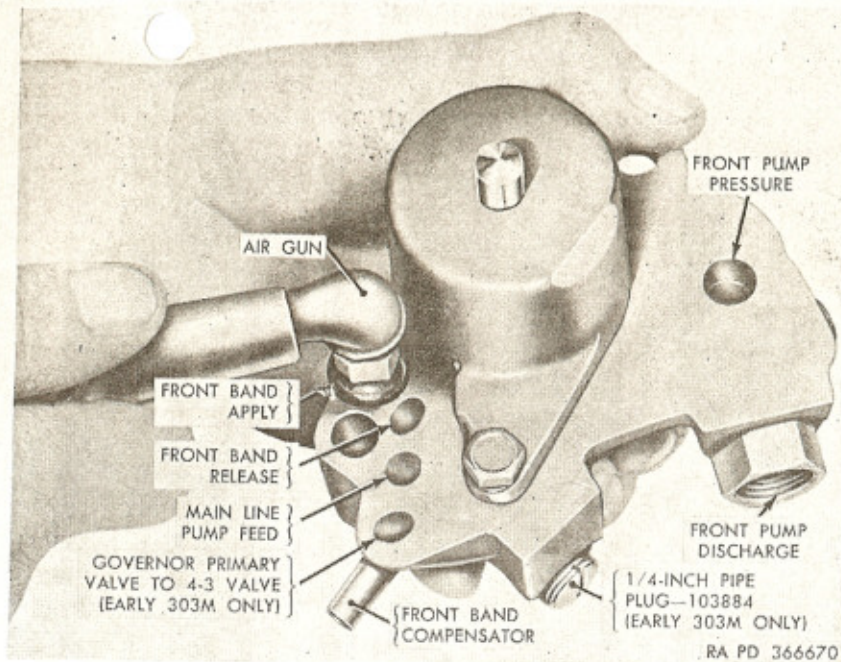

Figure 74. Checking front servo operation with air gun—B7950562.
a. Test servo operation before disassembly by using a source of compressed air and air gun—B7950562. Direct stream of air through front band apply passage (fig. 74). When servo is operating properly, stem of body piston assembly (G) should fully extend and remain in an extended position as long as air pressure is applied.
b. Remove two bolts (S) and lockwashers (R) attaching cylinder (A) to body (K). Remove cylinder (A).
c. Remove cylinder piston spring (D); then remove cylinder piston (C) from cylinder. Remove cylinder piston oil seal ring (B) from cylinder piston (C).
d. Remove cylinder piston spring retainer (E) and body piston retracting spring (F) from stem of body piston assembly (G).